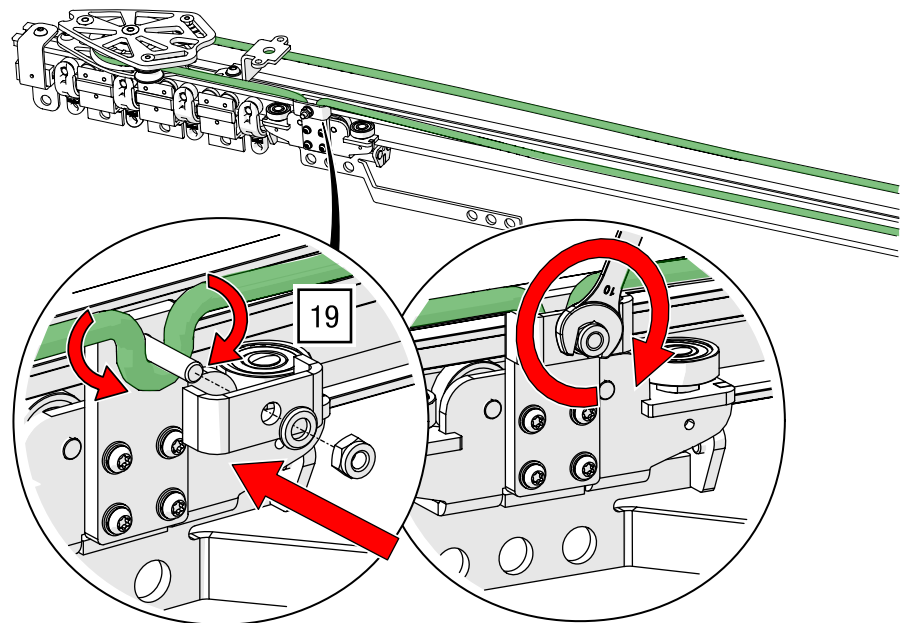

Fig. 84: Side cord operation – Clamp the cord to the second master runner
19. Clamp the cord in the first master runner at the return pulley and tighten the nut with a 10 mm open-end wrench (see Fig. 84).